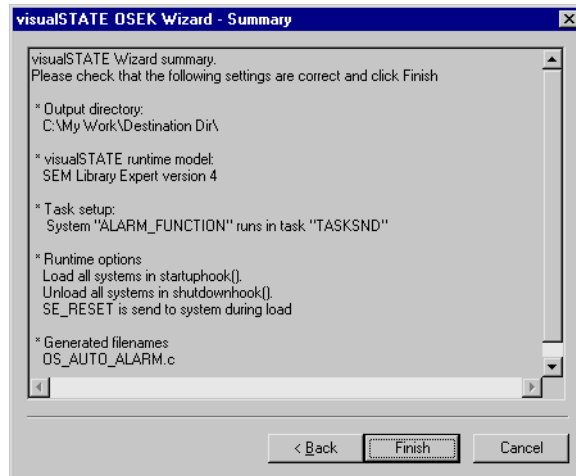

Figure 215: OSEK wizard, Summary
- 11 Click *Next*. The Summary page of the wizard will be displayed (see example in *Figure 215*, page 319).